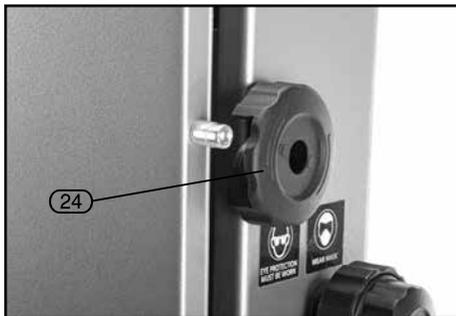

FIG. 11
9.4 UPPER AND LOWER DOORS – FIG. 11